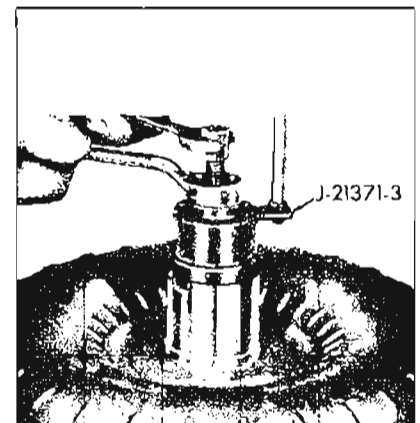

Figure 5-358
- b. Install Tool J-21371-3 and tighten hex nut. See Figure 5-358.